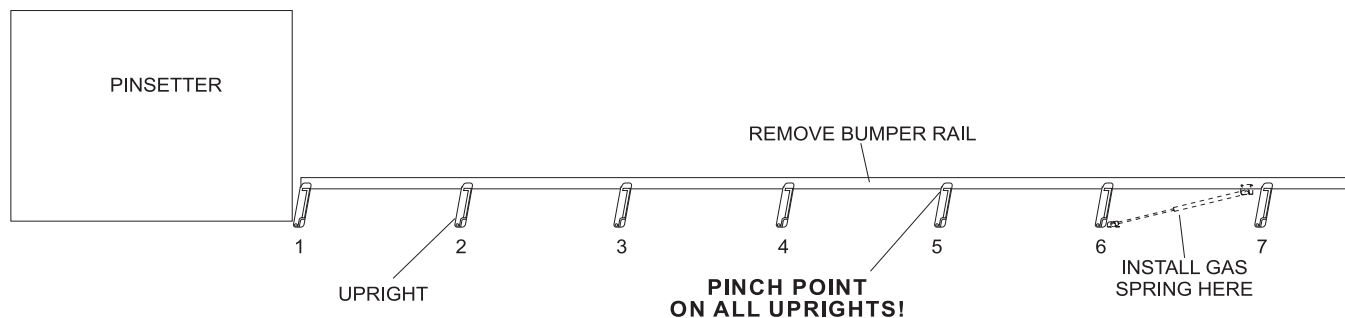

Figure 1
CAUTION!! A pinch point exists between the bumper rails and uprights. Refer to Figure 1.
2. The gas spring will be located between the 6th and 7th upright from the pinsetter. Refer to Figure 1.